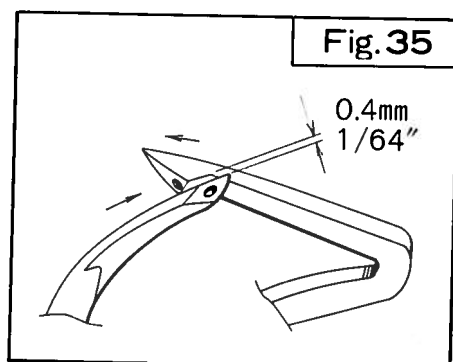
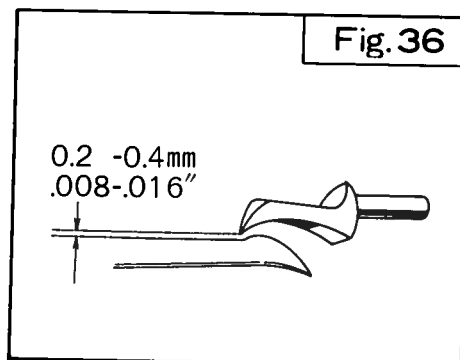
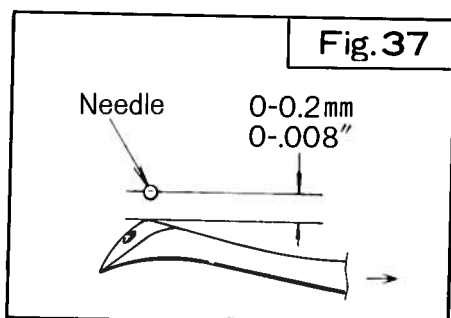

Fig. 35
Fig. 36
Fig. 37
6. Turn handwheel until connection ① is at its lowest position.
7. Loosen screw ② and adjust the clearance from the back edge of looper to the face of looper lever ③ to 3mm (1/8").
8. Tighten screw ② lightly.
10. Loosen screws ④ and ⑤.
11. Slightly loosen screw ⑥ and adjust looper eye or spreader (bottom of V groove) from centerline of needle to correct clearance as listed below by moving connection ① downward or upward.
12. Make sure it is correct, then tighten screw ⑥ lightly.
13. Turn handwheel slowly and observe that when both loopers pass they should be as close as possible without touching as shown in Fig. 35 and 36.
14. If right looper strikes left looper, move connection ① downward. Move right looper to the left until correct clearance is obtained as listed below. Turn handwheel and observe that both loopers pass as shown in Fig. 35.
15. If clearance is too much, move connection ① upward. Move right looper to the right until correct clearance is obtained as listed below. Turn handwheel and observe that both loopers pass as shown in Fig. 35.
16. Tighten screw ⑥, and tighten screws ④ and ⑤ alternately.
17. Rotate looper in its lever ③ and adjust right looper so that both loopers pass as shown in Fig. 36.
18. Retighten screw ② securely.
19. Looper should not strike needle when passing as shown in Fig. 37.
6. Turn handwheel until looper lever ⑦ is at its lowest position.
7. Loosen screw ⑧ and adjust the clearance from the back edge of looper to the left side of lever ⑦ to 4mm (5/32").
8. Tighten screw ⑧ lightly.
10. Slightly loosen screw ⑨.
11. Adjust looper eye or spreader (bottom of V groove) from centerline of needle to correct clearance as listed below by moving lever ⑦ downward or upward.
12. Make sure it is correct, then tighten screw ⑨ lightly.
14. If right looper strikes left looper, move lever ⑦ downward. Move right looper to the left until correct clearance is obtained as listed below. Turn handwheel and observe that both loopers pass as shown in Fig. 35.
15. If clearance is too much, move lever ⑦ upward. Move right looper to the right until correct clearance is obtained as listed below. Turn handwheel and observe that both loopers pass as shown in Fig. 35.
16. Tighten screw ⑨ securely.
17. Rotate looper in its holder and adjust right looper so that both loopers pass as shown in Fig. 36.
18. Retighten screw ⑧ securely.